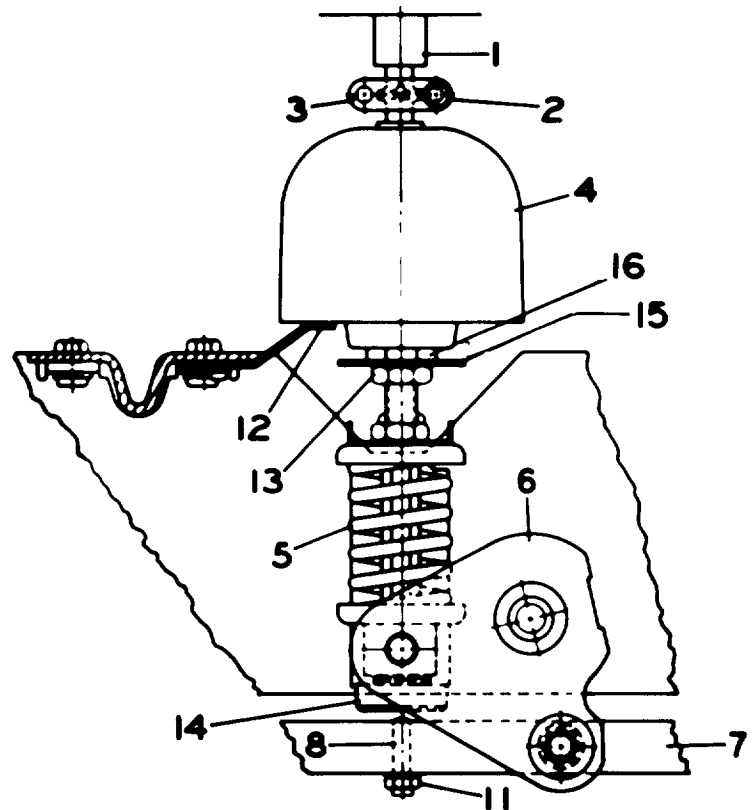

Fig. 12 Primary Contact Gap and Erosion Indication
To adjust, loosen the locking nut, (53) Fig. 4 (¾ hex) holding the stop bolt to the horizontal connecting bar, and then unscrew the stop bolt (¾ hex) to decrease latch clearance while pushing the manual trip push button in and out until the trip roller just starts to turn. (NOTE: Before making adjustments to the trip latch clearance the overtravel stop bolts, (8) Fig. 12, should be backed out of the horizontal connecting bar two turns.) Now, screw in on the adjusting bolt until the roller no longer turns plus an additional ¼ turn. Torque the lock nut to 55 foot-pounds while holding the adjusting screw. This sets latch clearance at a minimum and any mechanism wear will tend to increase the clearance. When 0.060 inch clearance is reached readjustment will be required.
Refer to Fig. 12. Six adjustable bolts, (8) are threaded into the horizontal connecting bar to provide stops for each pole to prevent overstroking the Power/Vac* interrupters. Each of these bolts should be backed out of the horizontal connecting bar two turns prior to performing adjustments to
Wipe is the additional compression of the pre-loaded wipe spring, (5) Fig. 12, which is used to apply force to the closed vacuum interrupter contacts. Proper adjustment of the wipe springs is necessary to assure that the vacuum interrupter contacts will stay closed against the forces which tend to open them due to fault currents and to supply the propelling energy required to attain the correct opening speed needed for a clean interruption of the current.
- (3) Measure the position of the Operating Rod (4) Fig. 12, relative to the breaker frame. Measure all three phases. (SUGGESTION: place a piece of masking tape vertically on the operating rod and using a block (approx. 2" height) that spans the frames draw a line on the tape to indicate the position when the breaker is closed. Leave the tape in place and in step 6 draw another line on the tape when the breaker is opened. The distance between these lines is the gap for that phase.)
- (4) Remove the trip latch blocking bolt installed in Step 1 and open the breaker by pushing the manual trip push button.
- (5) Repeat Step No. 2 to measure the position of the wipe indicator with the breaker open. Subtract the two measurements of the screw length to obtain the wipe of each phase.
- (6) Repeat Step No. 3 to measure the position of Operating Rod with the breaker in the open position. Subtract the two measurements to obtain the vacuum interrupter contact gap for each phase. (If the suggestion in Step 3 was followed, remove the tape from the operating rod, place it on a flat surface and measure the gaps directly as the distance between the two lines on the tape.)
- (7) Compare the wipes and gap measured with the following chart:
3. Loosen but do not remove the 1/4" hex bolts holding the coupling clamp, (2) Fig. 12. Be sure that the clamp can be rotated freely by hand.
4. Hold the hexagon projection at the bottom of the Operating Rod (1-1/8" wrench) and loosen the adjacent lock nut (13) Fig. 12 (15/16" wrench).
6. After completing the adjustment, torque the Operating Rod Locknut, (13) Fig. 12, to 40-50 foot-pounds while preventing the Operating Rod from turning. Tighten the coupling clamp screws to 10-12 foot-pounds.
In the closed position, the indicator disc, (15) Fig. 12, below the operating rod is aligned with a reference arm (12) on new interrupters. With the breaker in the closed position, the indicator disc after inservice fault interruptions will move upward from alignment with the reference point due to contact erosion. Contact erosion will decrease the wipe which may be brought back to normal by performing wipe adjustment. When erosion reaches $\frac{1}{8}$ inch (the misalignment of the indicator disc and the reference arm with the breaker closed) the interrupter should be replaced.